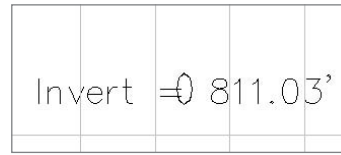

Figure 11.17
7. At the Select the part in a network section to label: prompt, select the pipe shown in the section view. A label will appear, as shown in Figure 11.17. Press  $\downarrow$  to end the command. Click Close to dismiss the Add Labels dialog.